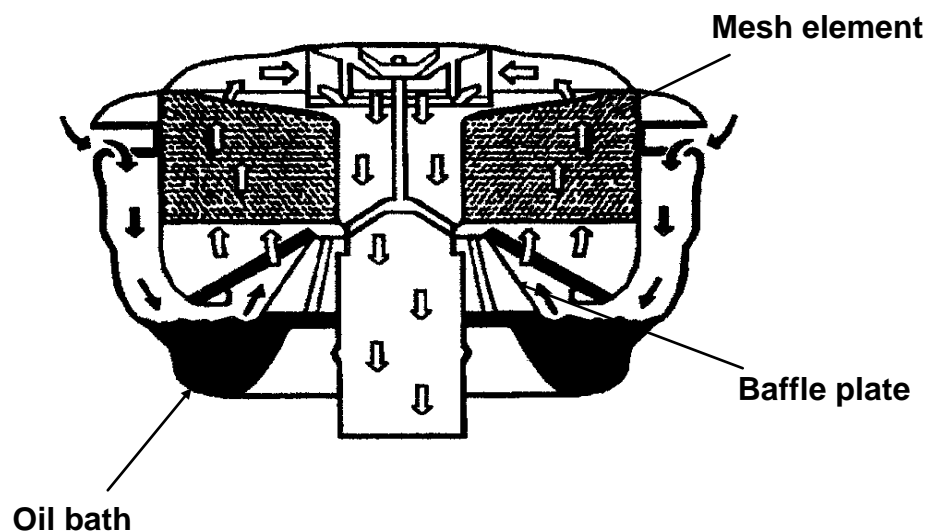

Fig. 20
- The moistened air flows upwards through the mesh element, which removes the oil moisture and the remaining dust from the air (Fig. 20).